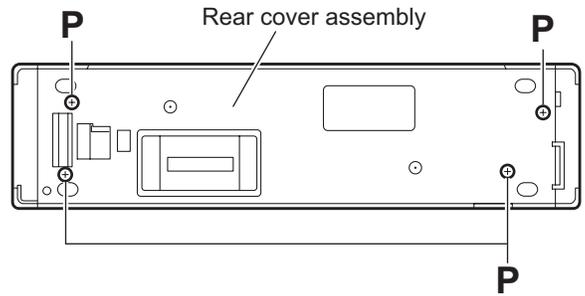

Fig.15
### 3.1.10 Removing the front board (See Figs.15 to 17)
- (1) From the rear side of the front panel assembly, remove the four screws **P** attaching the rear cover assembly to the front panel assembly. (See Fig.15.)